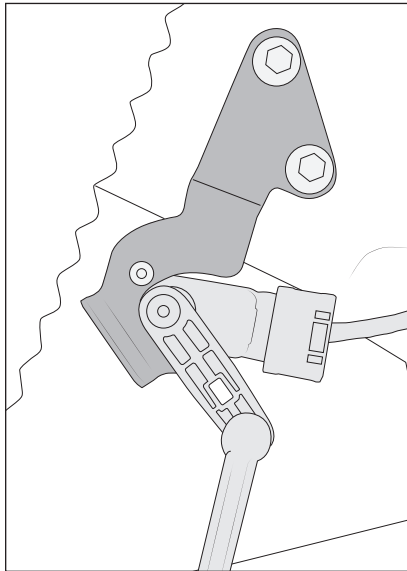

Figure 30
7. Remove factory rear height sensor brackets from frame and sensor and replace with AEV supplied brackets to properly re-locate the sensors. Be careful not to stress the sensors, arms, or wiring while switching brackets (fig. 30).